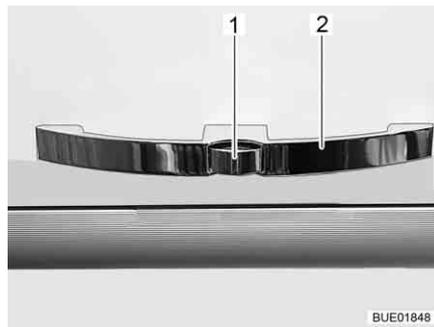
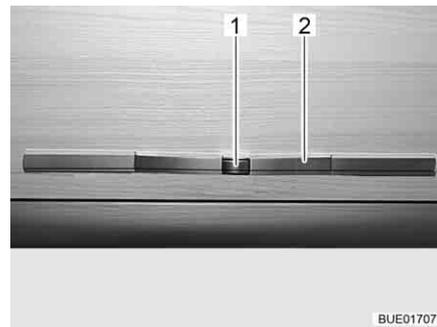

Fig. 48 Furniture flap with handle (example)
Fig. 49 Furniture flap with handle (alternative)
- Press the release knob (Fig. 48,1 or Fig. 49,1) on the handle (Fig. 48,2 or Fig. 49,2) and hold it down.